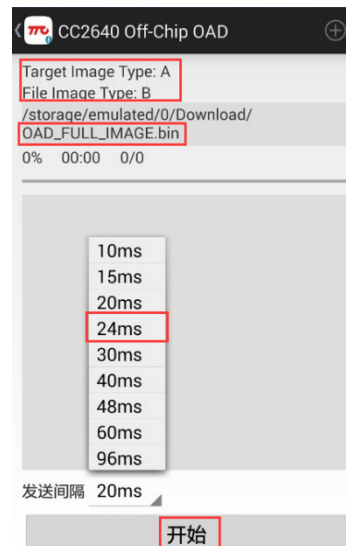

Figure 2-5-11 Import file
- (7) After the success of the connection, the display Target Image Type is A; click "+", import bin file, file import, File Image Type B, set the transmission interval of 24ms, click to start, as shown in Figure 2-5-11;
- (8) after transmission to 100%, do not need to operate APP. Wait about 10 seconds, the device reset, run the new program, and APP disconnect the link;